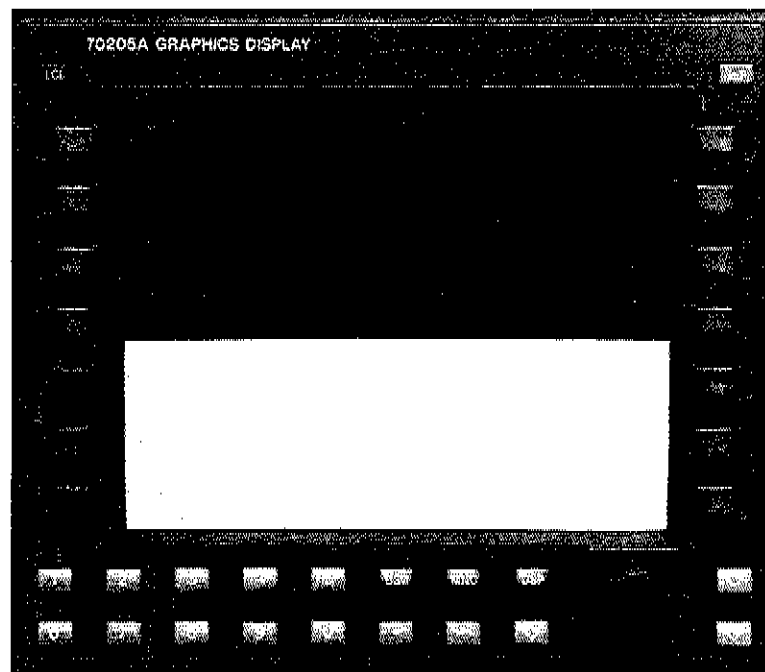

Figure 14. Test Pattern 1
- a. Obtain test pattern by following the procedure in step 5 (Accessing Adjustment Test Patterns) and pressing DISPLAY ID soft key (TEST PATTERN is shown in Figure 14).
- a. Obtain test pattern by following the procedure in step 5 (Accessing Adjustment Test Patterns) and pressing **PATTERN 1** soft key (Test **PATTERN 1** is shown in Figure 14).
- c. Adjust A2R57 - VLIN (refer to Figure 10 for location) until the graticule is symmetrical, with evenly spaced lines (refer to Figure 14).